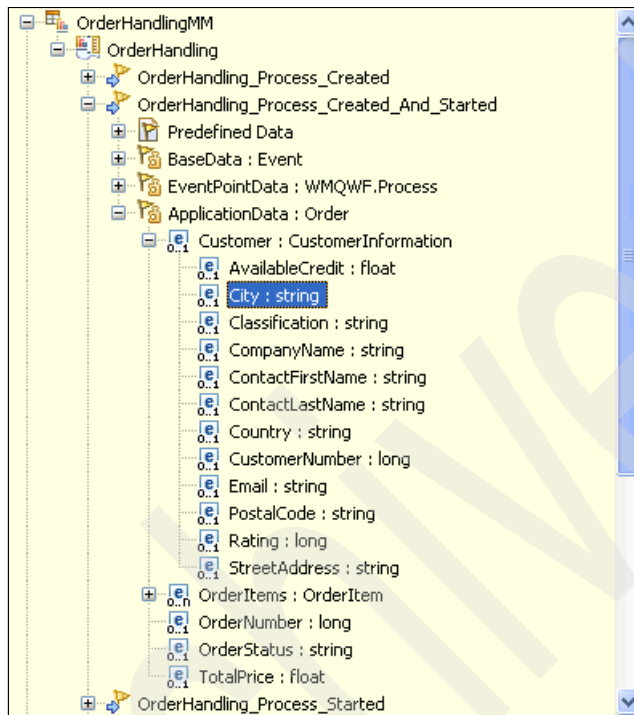

Figure 8-62 Setting a value for City metric
- In the Content Assist (Figure 8-62), expand **OrderHandlingMM** → **OrderHandling** → **OrderHandling_Process_Created_And_Started** → **ApplicationData : Order** → **Customer : CustomerInformation** and double-click **City : string**. Click **OK**.